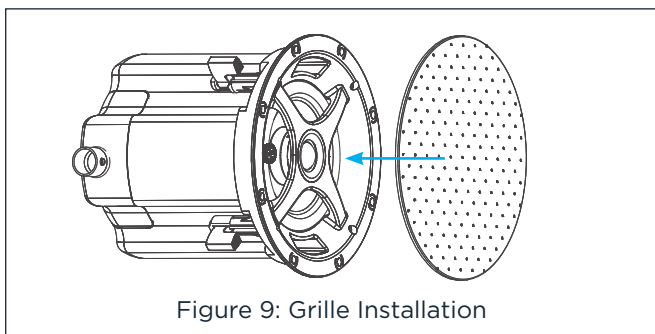

Figure 9: Grille Installation
- After the speaker is installed, and transformer tap adjustments are made, the grille can be installed. The grille is held in place by several small, powerful magnets on the speaker frame. Place the grille against the speaker and the magnets will hold it firmly in place. When properly installed, the grille should make contact with the wall all the way around the speaker (see Figure 9).